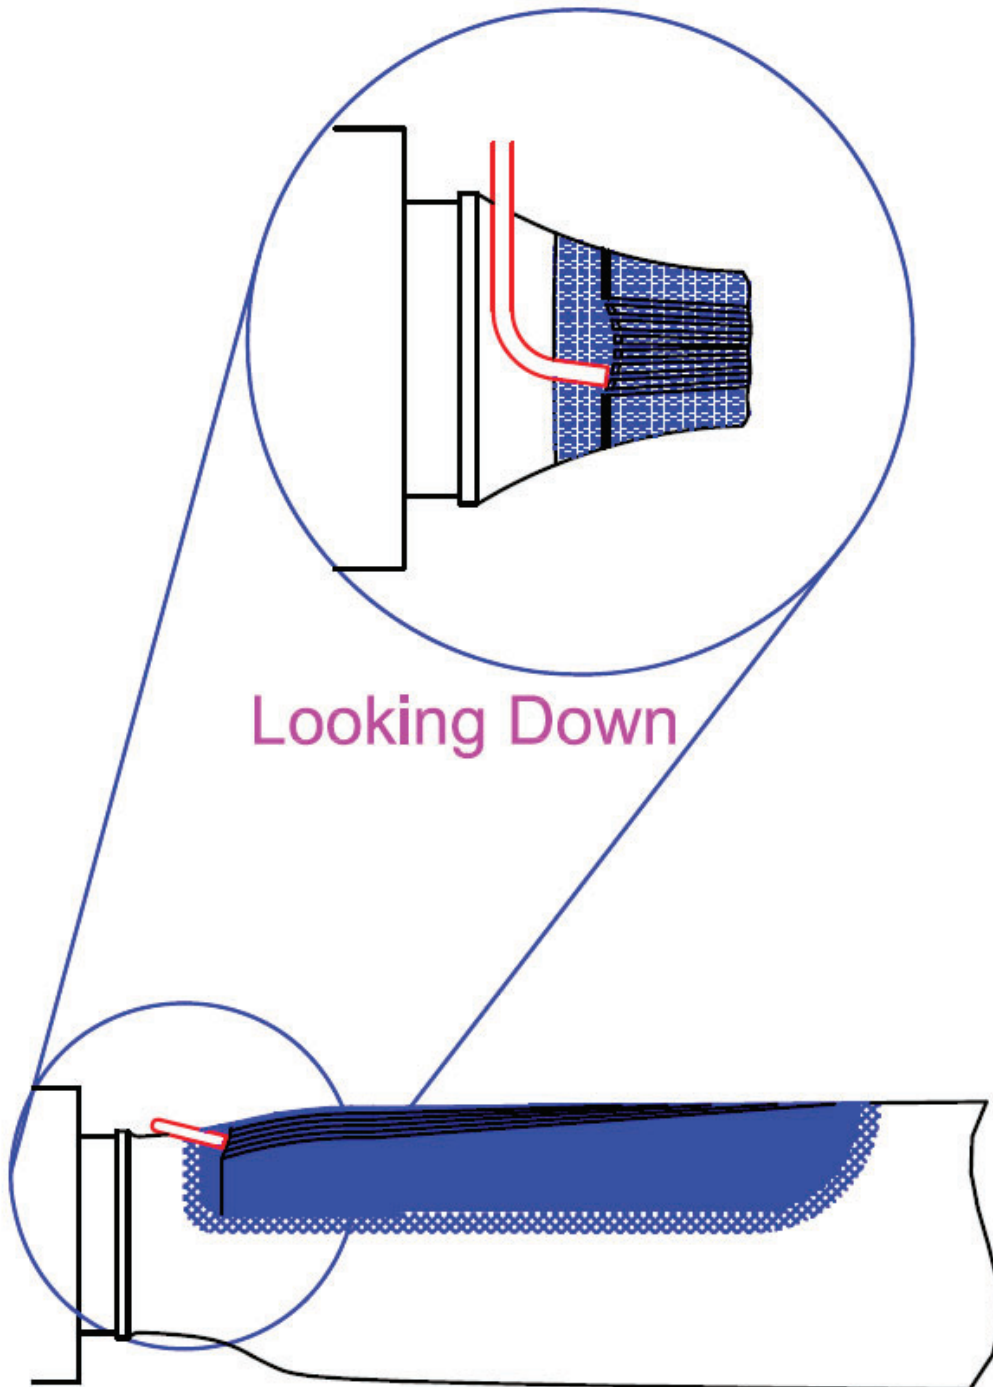

Figure 5: Fluid travel tube position diagram (propeller blade in fine pitch)
- 8) On the new propeller, install the removed fluid travel tubes and P-clips by removing hub clamping bolts. Reinstall hub clamping bolts and torque nuts according to the TORQUE TABLE in the INSTALLATION AND REMOVAL chapter of Manual 115N for props with metal blades or Manual 145 for props with composite blades. Position the fluid travel tube outlets according to CAV Aerospace Inc. drawing number 10351-37. An excerpt is provided in Figure 5.